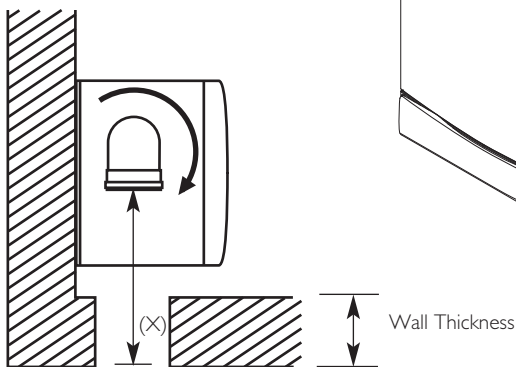

Fig. 34
3. Measure the distance from the outside wall face to the elbow. This dimension will be known as 'X' (Fig. 34).